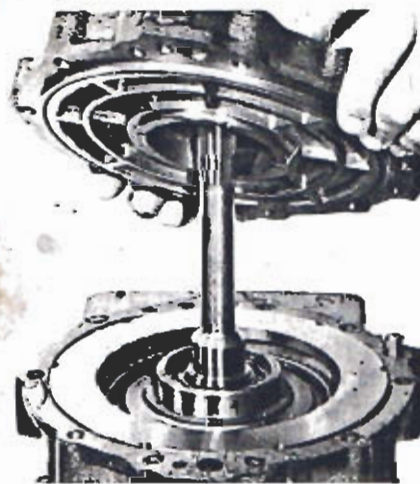

Figure 28 Lower adapter to case face
**STEP 39** Assemble gasket to adapter face and lower gasket and adapter straight down over input shaft and rest on front face of case. Twisting the adapter will unseat pressure plate from springs and should be avoided, figure 28.
**STEP 40** Assemble the four capscrews (91) and tighten evenly to recommended torque. Should the pressure plate bottom against dowels, it would be necessary to loosen the capscrews and shift adapter to cause the pressure plate to shift into alignment with dowels.